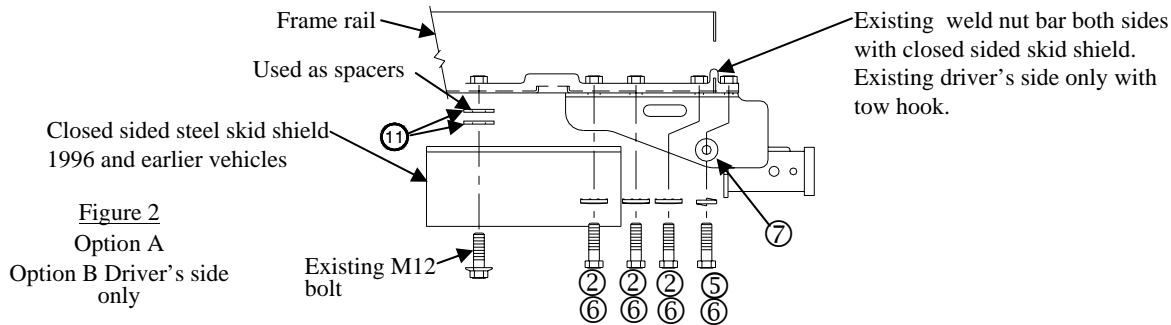

Figure 2
See Figures 2, 3, 4 & 5 for proper fastener combinations
Note: Five (5) installation options are possible depending on vehicle configuration refer to Figures 2, 3, 4 and 5.
2. **Option A** – See Figure 2.
Option C – See Figures 2 & 3